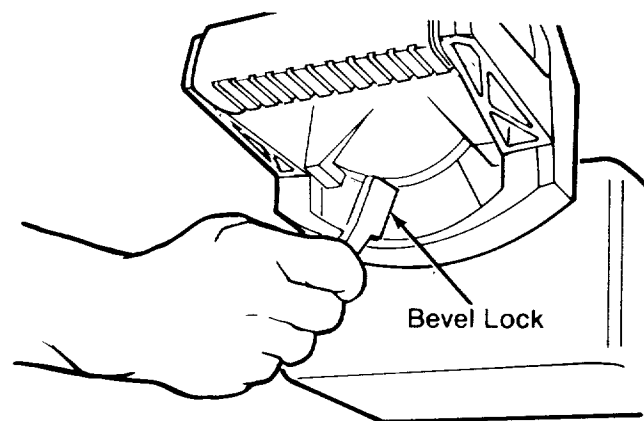

Fig. 48
11. Push the *bevel lock* to the left as far as it will go. (Figure 48)